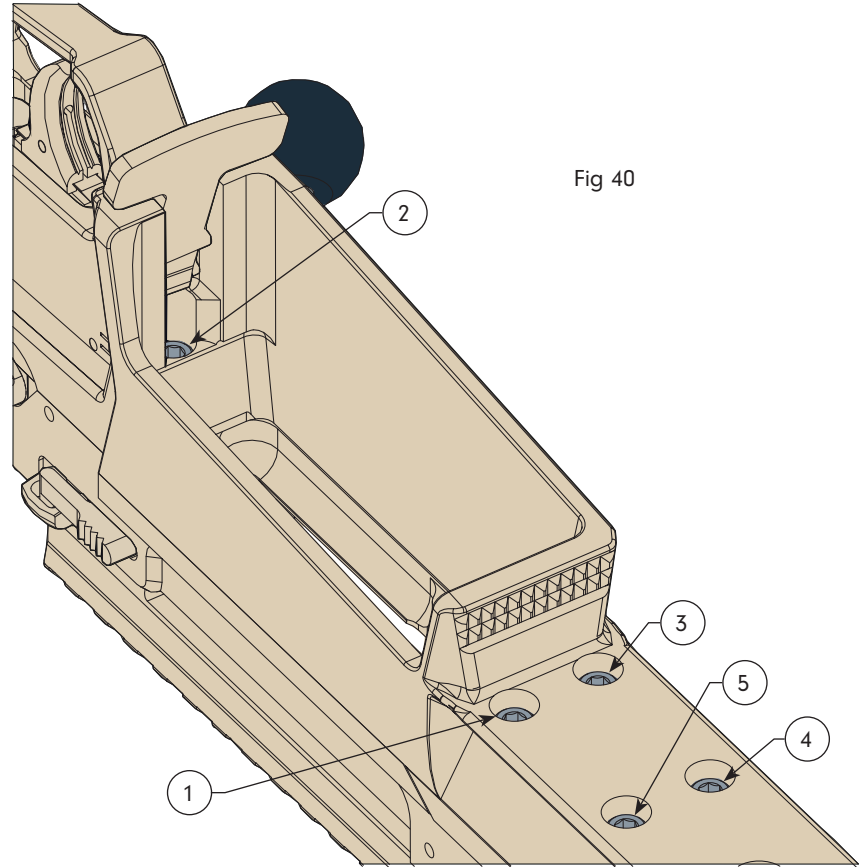

Fig 40
- Using a 5/32" hex wrench or 5/32" extended ball-end hex wrench, tighten each action screw in the sequence shown in Fig 40 to 53 in-lbs.